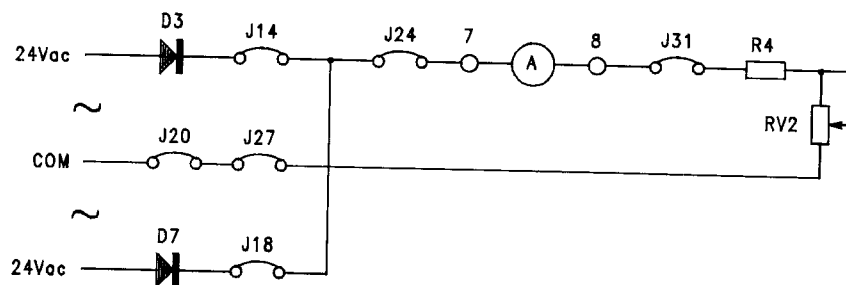

fig. B04.4
- Connect jumpers J14, J18, J24, J31, J27, J20 and the ammeter to produce the circuit of figure B04.4